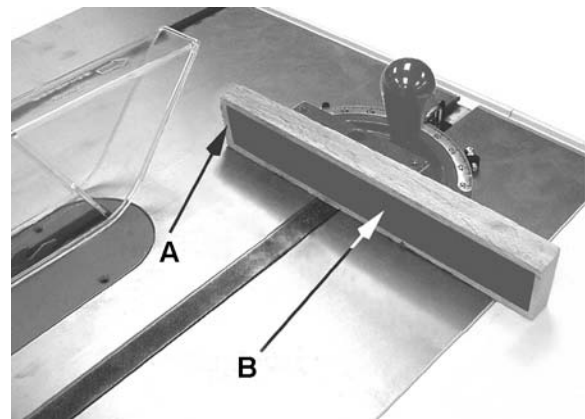

Figure 39
To improve the effectiveness of the miter gauge in crosscutting, some users mount an auxiliary wooden extension face (A, Figure 39) with a glued-on strip of sandpaper (B) to the miter gauge.